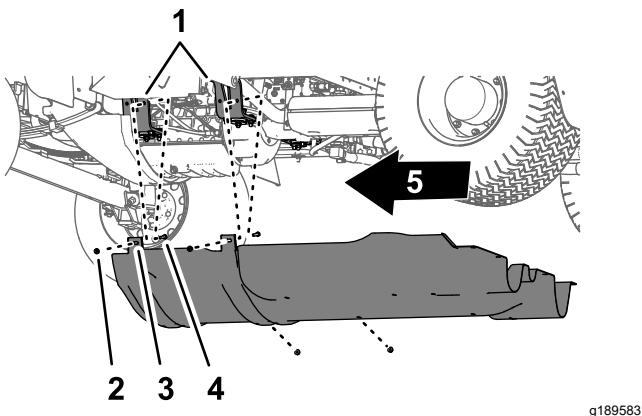

Figure 63
2. Remove the 4 flange locknuts (5/16 inch) from the bolts and carriage bolt that secure the mounting tabs of the undercarriage shroud to the engine-mount brackets of the machine (Figure 63).
4. Remove the undercarriage shroud from the machine (Figure 62 and Figure 63).
1. Align the undercarriage shroud to the bottom chassis of the machine; refer to Figure 63 in Removing the Undercarriage Shroud \(page 52\).
2. Move the mounting tabs of the undercarriage shroud over the bolts and carriage bolt at the engine-mount brackets of the machine; refer to Figure 63 in Removing the Undercarriage Shroud \(page 52\).
3. Assemble the undercarriage shroud to the engine-mount brackets and bolts (Figure 63) with the 4 flange locknuts (5/16 inch) that you removed in step 2 of Removing the Undercarriage Shroud \(page 52\).